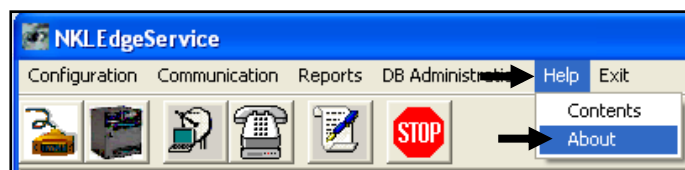

Fig. 3.12
- 11) Select **Help** at the top of the program and then select **About** (Fig. 3.12).